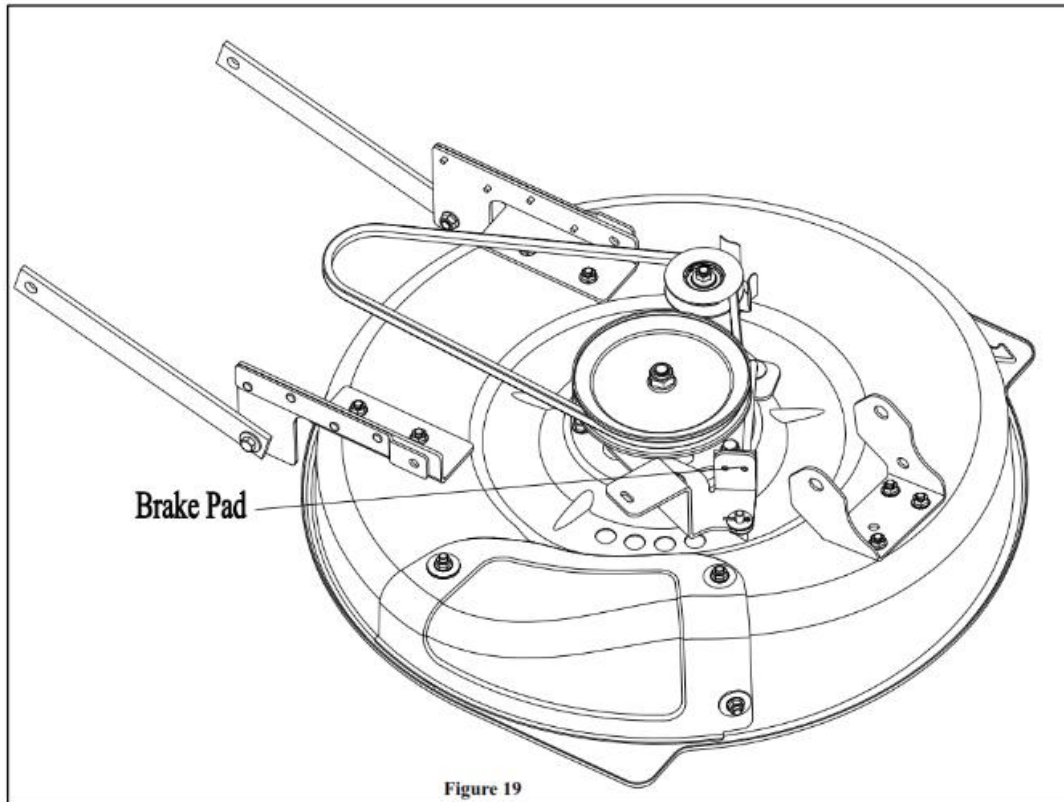

Figure 19
- 7) Check the operation of the blade brake. Rotate the pulley with your hand. Make sure the **brake pad** is pressed tightly against the pulley (Fig. 19).